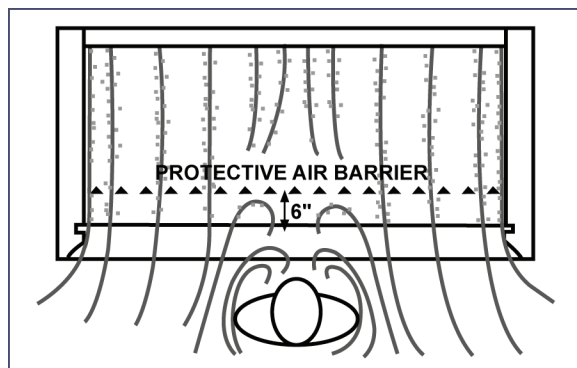

Figure 3. Top view of the air currents created when an individual is working in front of a hood.
10. Perform all work and keep all apparatus at least six inches into the hood. A chemical fume hood provides protective ventilation by means of directional airflow. Eddy currents are generated as the airflow is disrupted at the hood face. At the appropriate face velocity, eddy currents drop off about six inches inside the hood. (Figure 3)